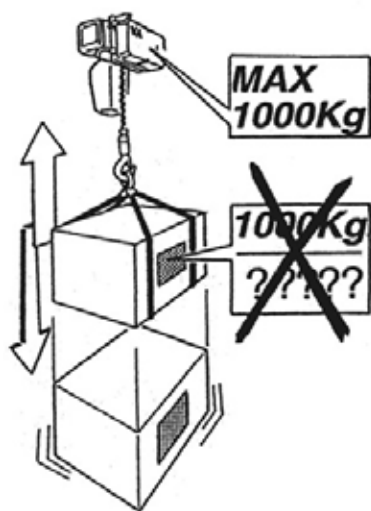

fig.50
- ▶ whose functional characteristics may subject the hoist to dynamic overstresses exceeding the allowable limits or to accidental overloads. (fig.50)